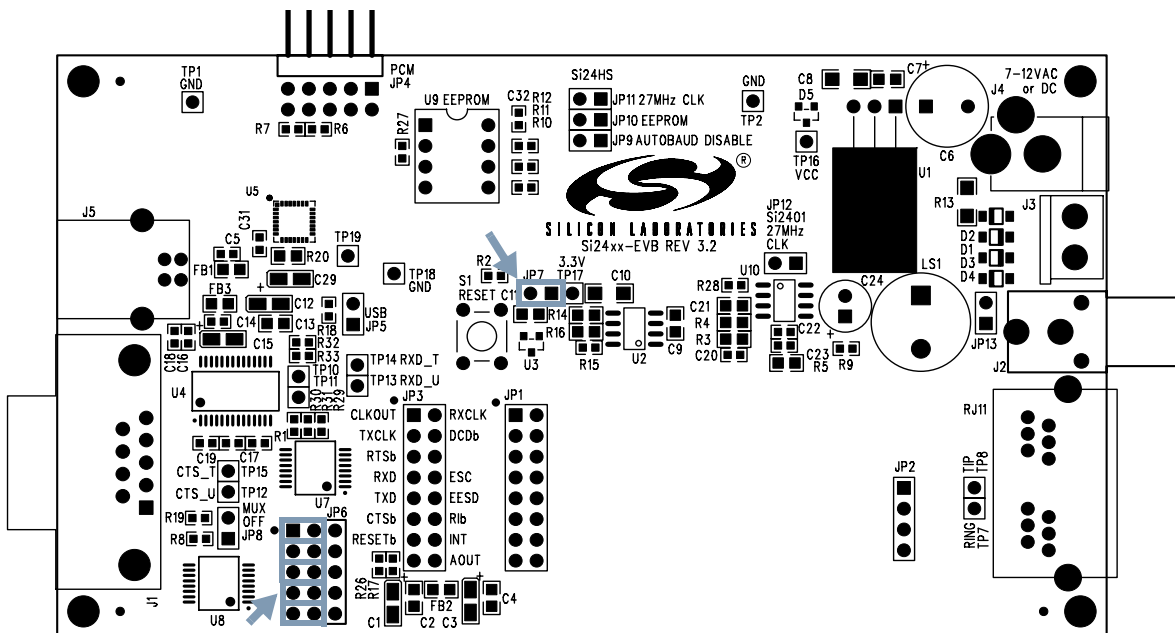
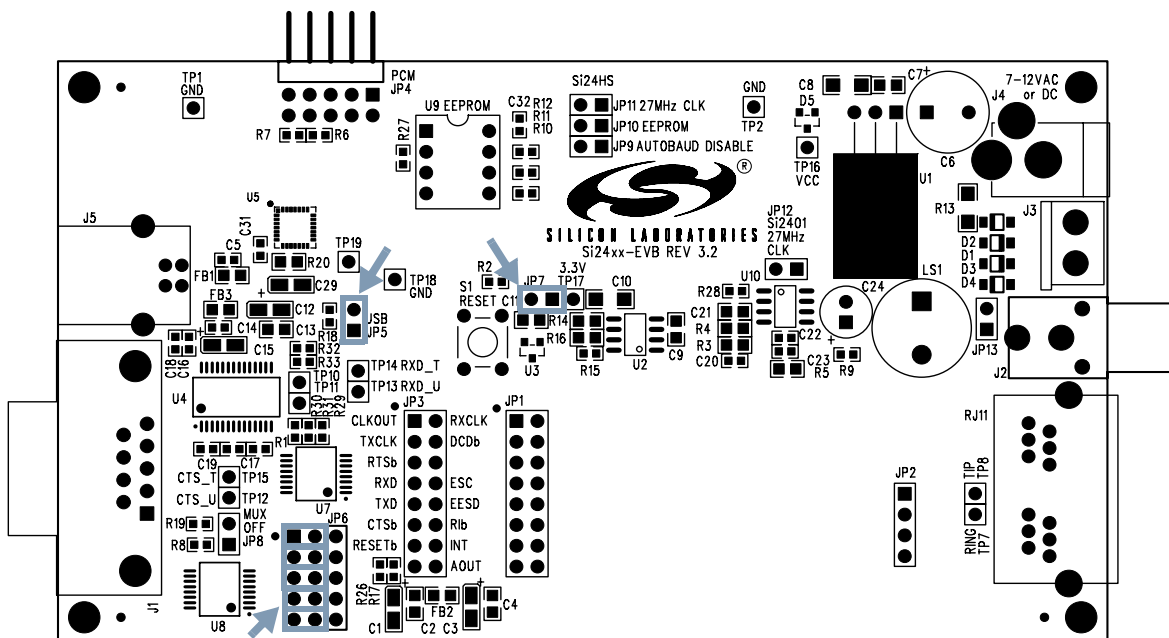
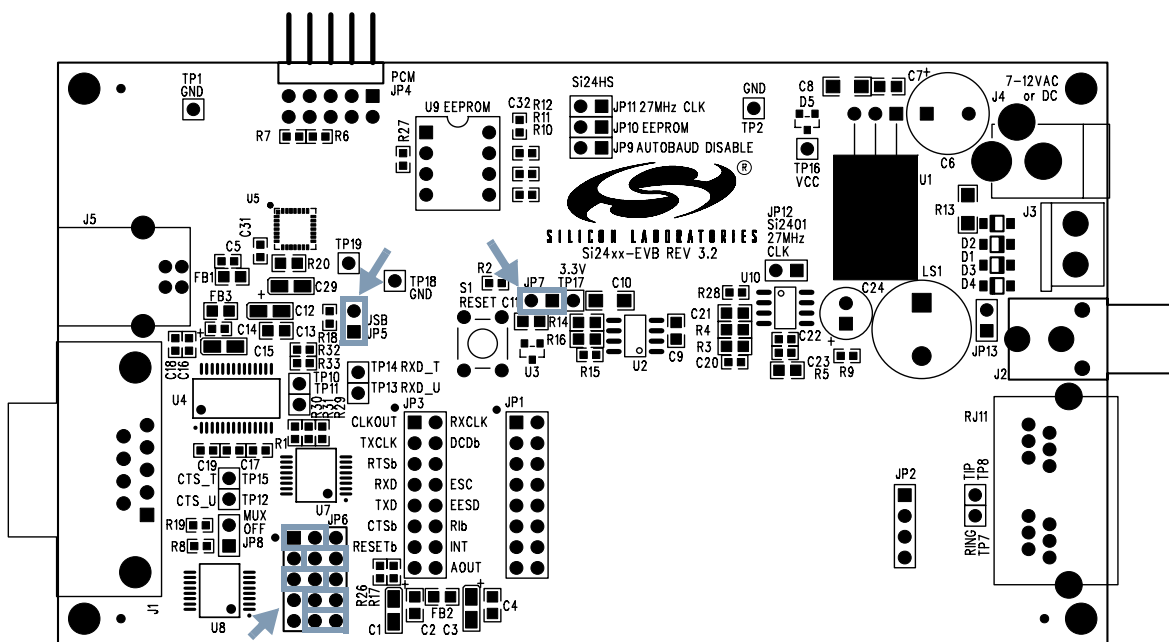

Figure 1. Standard Factory Jumper Settings—RS-232 Interface (Outlined in Gray) (FT Option)
Figure 2. Standard Factory Jumper Settings—USB Interface (Outlined in Gray)
Figure 3. Standard Factory Jumper Settings—USB Interface (Outlined in Gray) (FS Option)
Check all jumper settings on the Si2435/17-EVB before applying power. The standard factory jumper settings are shown in Figure 1. These settings configure the Si2435/17-EVB for RS-232 serial operation with autobaud. Any terminal emulator program configured to communicate through a PC COM port can be used to communicate with the Si2435/17-EVB.
The standard factory jumper settings for USB operation are shown in Figure 2. The only difference between RS-232 and USB jumper settings is that JP5 must be installed to enable USB.
1. Set jumpers according to Figure 1 or Figure 2.
1. Set jumpers according to Figure 2 or Figure 3.
This operation mode uses the standard factory jumper settings illustrated in Figure 1 on page 2. The Maxim MAX3237 transceiver interfaces directly with the TTL levels available at the serial interface of the Si2435/17 and, using internal charge pumps, makes these signals compatible with the RS-232 standard. The RS-232 transceiver on the Si2435/17-EVB can communicate at rates between 300 bps and 1 Mbps. This simplifies the connection to PCs and other data terminal equipment (DTE). The signals available on the Si2435/17-EVB serial interface (DB9 connector) are listed in Table 2.